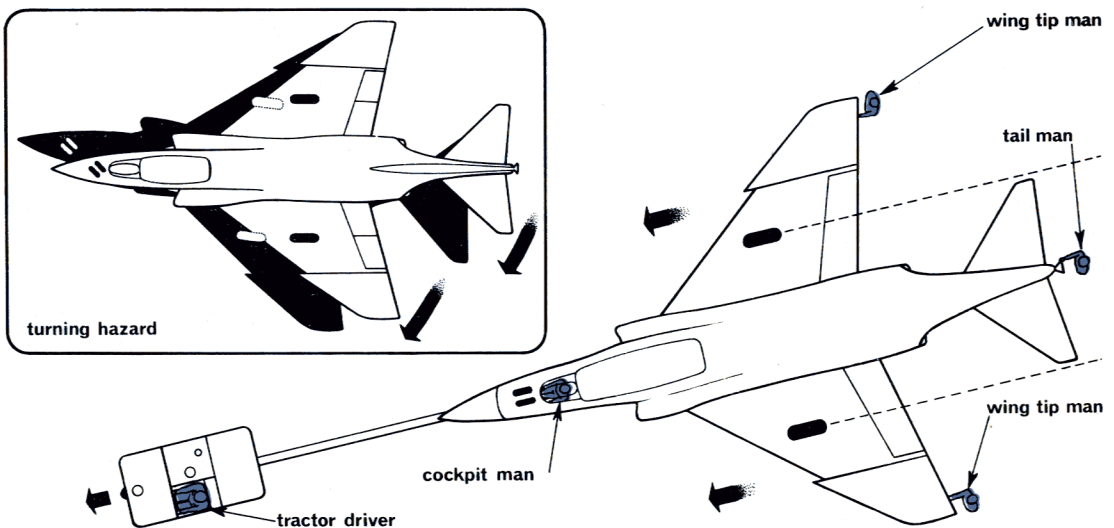
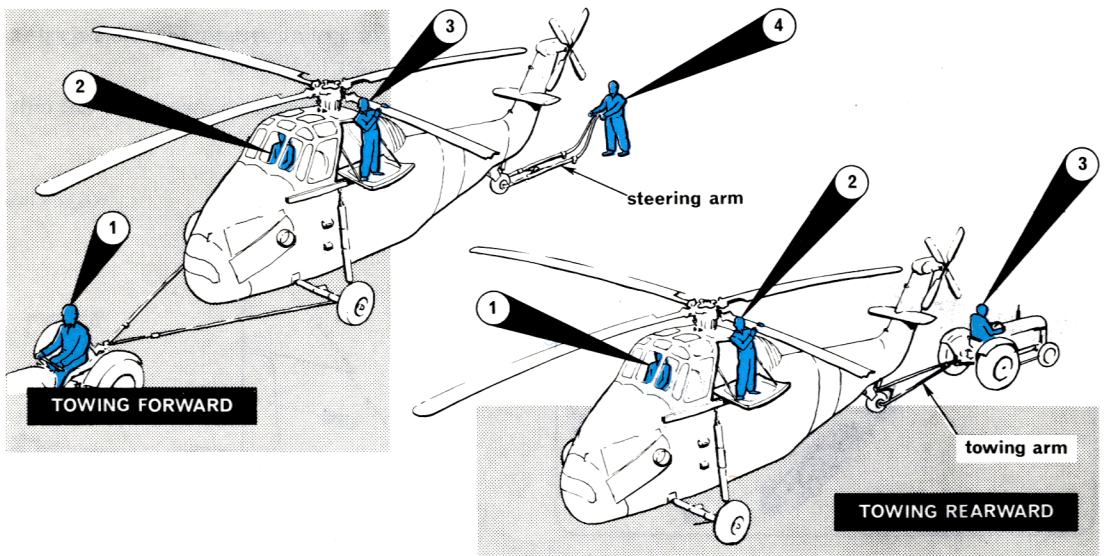

Fig. 13. Aircraft Towing
Fig. 14. Wessex Towing
23. The illustration at Fig. 13 shows these key men in position for the forward towing of a Phantom aircraft. It also highlights the turning hazard associated with a swept wing aircraft. It can be seen that whilst the aircraft may clear obstructions when moving straight ahead or astern, an additional allow-
24. Although in every kind of aircraft movement the key positions indicated in Fig. 13 are relevant, the actual duties of the members of the handling party are governed by the type of aircraft and the circumstances of the move. For instance, if the same Phantom aircraft had to be manhandled instead of being towed, then the tractor driver’s place would be taken by a member of the handling party with a steering arm, and the motive power supplied by as many as fifteen groundcrew pushing at selected ‘push points’. As a further example, in Fig. 14 the movement of a Wessex helicopter illustrates how the towing forward or rearward of an aircraft can affect the actual work of the members of the handling party. The figure, which excludes the supervising SNCO who will be in a position where he can be seen by all members of the team, shows that whereas a minimum of five persons are required for towing the aircraft forward, only four are required to tow it in the opposite direction. In both cases the duties of the wing tip men are taken over by one man on the transmission servicing platform who is able – when the rotor brake is off – to turn the main rotor head to avoid any obstructions that are likely to foul the rotor blades. In towing the helicopter rearwards the steering arm and its operator give way to a towing arm and a tractor driver. In both examples these are the *minimum* requirements; extra handlers will be required as look-outs when the aircraft is manoeuvred through a crowded dispersal area, or a restricted opening, and to assist in pushing as required.
rearwards by means of cables, or chains, attached to the main landing gear and using a steering arm at the nose wheel for manual steering. The towing of the Wessex helicopter (Fig. 14) illustrates the methods used to tow the few types of aircraft remaining in the RAF which have a tail wheel.